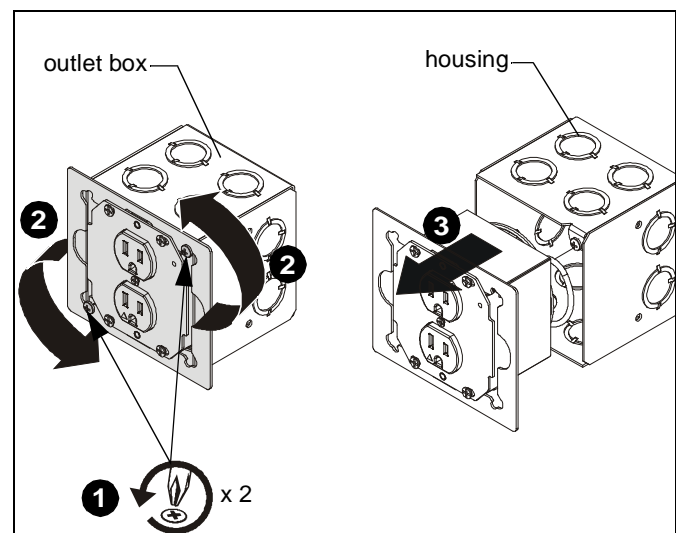

Figure 1
1. Loosen two Phillips head screws holding EGX-SF2 (A) outlet box to outer housing. (See Figure 1)
2. Rotate outlet box counter-clockwise until it is free to be removed from housing. (See Figure 1)
3. Remove outlet box from housing. (See Figure 1)